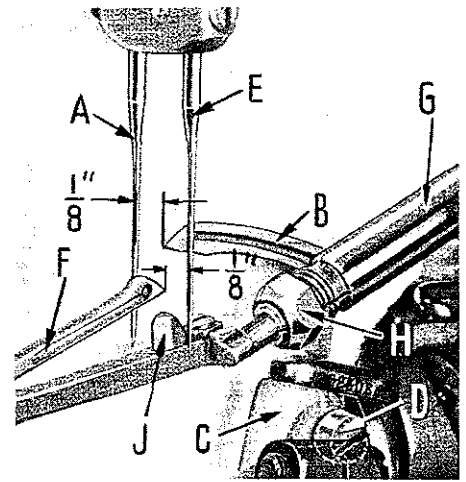
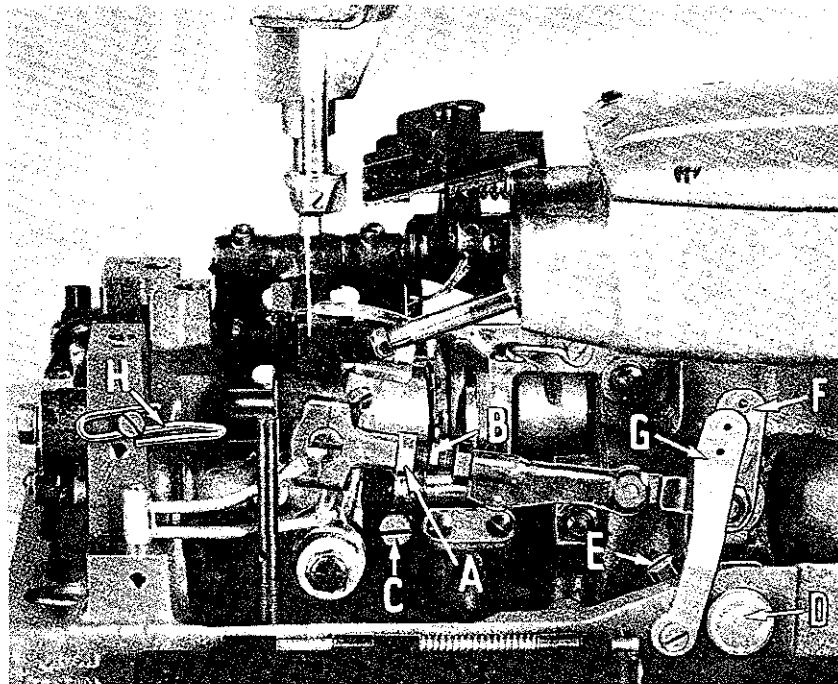

Fig. 3
Fig. 4
Insert the rear needle (A, Fig. 3), Type 108 GS, size as specified and insert the 401 stitch looper (B) in the looper rocker (C), and tighten screw (D). Rotate hand-wheel in operating direction until back looper is in the extreme right position. The looper should be set so that its point is $\frac{1}{8}$ inch from the center of the back needle, as in Fig. 3. Looper gauge No. 21225- $\frac{1}{8}$ can be used advantageously in making this adjustment. If adjustment is needed, loosen nut (A, Fig. 4) (it has a left hand thread) and also loosen nut on right end of connecting rod (B), turn connecting rod forward or backward to obtain $\frac{1}{8}$ inch, and retighten both nuts.
Insert the front needle (E, Fig. 3) and also insert the 503 stitch looper (F) in the lower looper bar (G), and tighten nut (H). Rotate handwheel in operating direction until front looper is in the extreme left position. The looper should be set so that its point is $\frac{1}{8}$ inch from the center of the front needle, as in Fig. 3. Looper gauge No. 21225- $\frac{1}{8}$ can be used advantageously in making this adjustment. If adjustment is needed, loosen nut (H) and slide looper in or out of its holder and retighten nut.
With the back looper (B, Fig. 3) in the looper rocker (C), turn the handwheel in the operating direction until the looper moves to the left and its point is even with left side of the needle (A). Note the height of the eye of the needle with respect to the looper point, then turn the handwheel in the reverse direction until the looper point again moves to the left and is even with the left side of the needle.
If the motions are synchronized, the height of the eye of the needle with respect to the looper point will be the same. A variation of .005 inch is allowable. If the distance from the eye of the needle to the point of the looper is longest when the pulley is turned in operating direction, move the looper drive lever shaft synchronizing stud (D, Fig. 4) to the rear. Moving it in opposite direction acts the reverse.
Moving of the looper drive lever shaft synchronizing stud is accomplished as follows: Loosen clamp screw (E, Fig. 4) of looper drive lever.
The 503 looper thread take-up (F, Fig. 4) should be positioned approximately on the center line of the looper drive lever as per Fig. 4. Eyelets (G, and H, Fig. 4) are positioned correctly when the lower looper thread is taut as the spreader reaches the left end of its travel.
To control the ratio of thread pulled during the leftward movement, use the thread take-up eyelet (G, Fig. 4).
Moving this eyelet to the left causes more looper thread to be drawn on the left hand stroke of the spreader, and moving it to the right causes less looper thread to be drawn. Moving this eyelet to the right or left also affects the drawing of the looper thread at the extreme left position. To readjust for this condition, move the eyelet (H, Fig. 4) to the right to reduce the thread drawn or to the left to reduce the amount of slack. The two eyelets (F and G) are to be adjusted in conjunction with each other so that the following conditions are met: (1) $1/3$ of the looper thread is drawn during the left stroke of spreader, and (2) No looper thread is drawn at the extreme end of stroke.